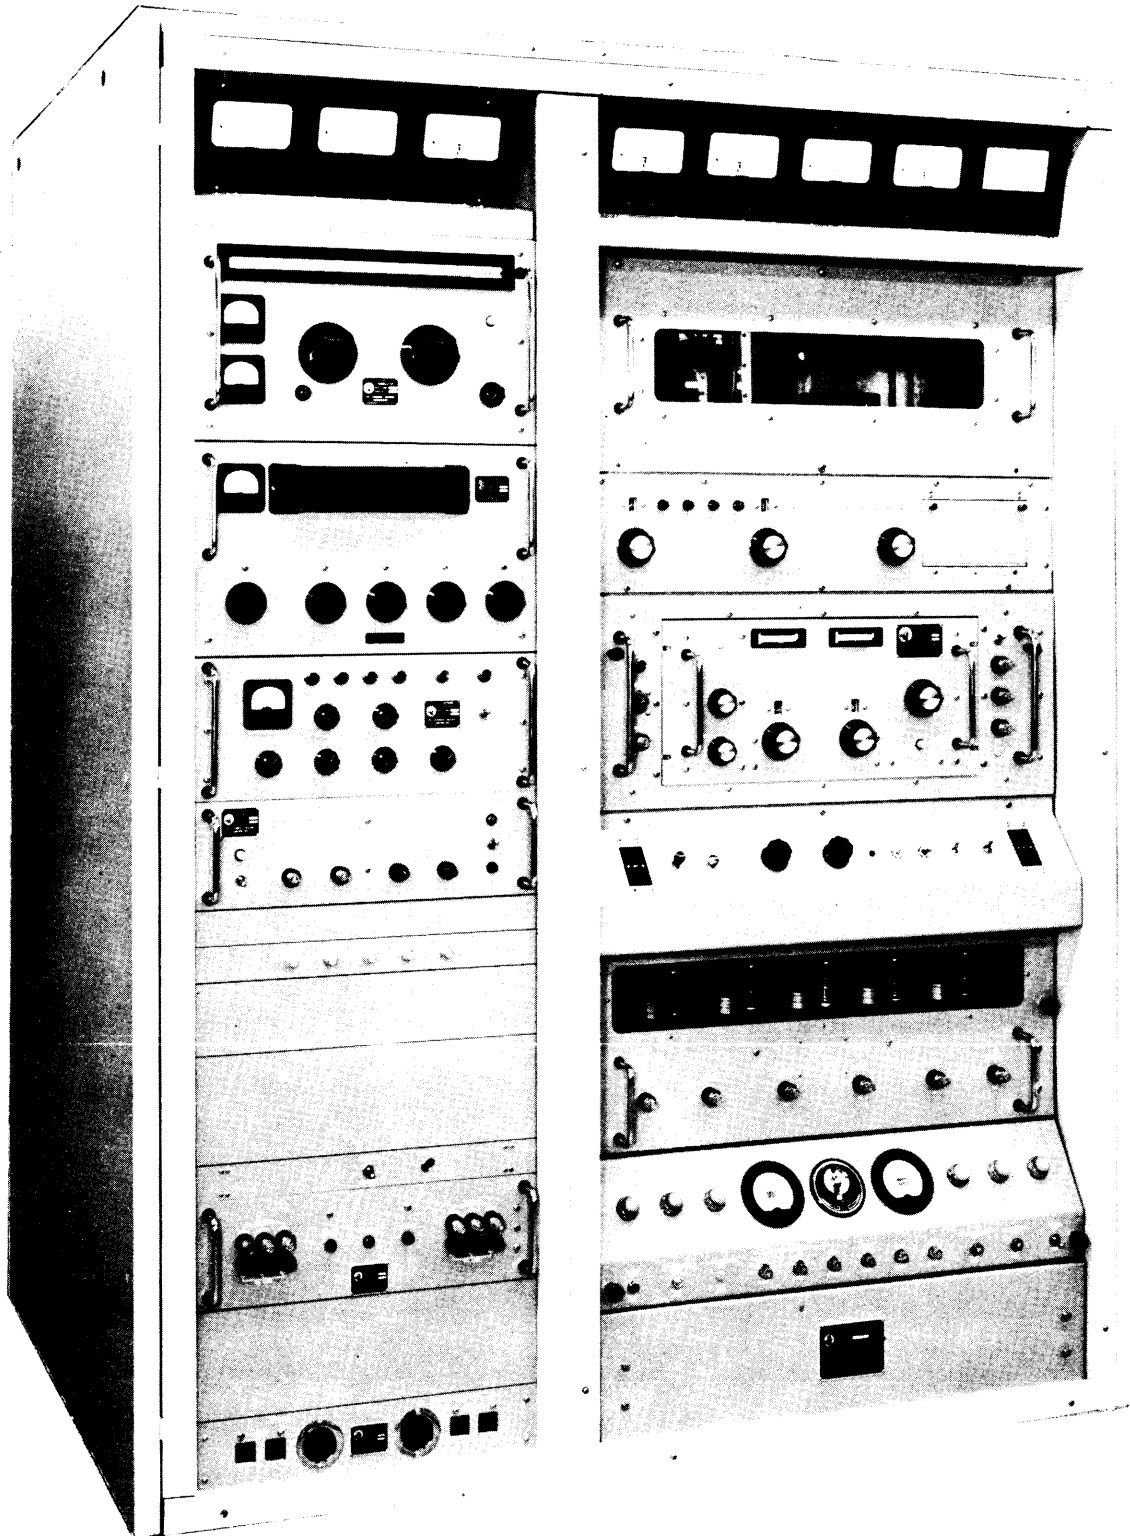

Figure 1-1. Technimatic Transmitter, Model TSTE-10K
TechniMatic* Transmitter, Model TSTE-10K (figure 1-1) is a remotely controlled general purpose transmitter that delivers 10,000 watts peak envelope power (PEP), or 5,000 watts average power throughout the 2- to 30-mc range. The transmitter provides many types of operating modes, as follows:
a. GENERAL. - As shown in Figure 1-1, the transmitter consists of two frames, the auxiliary frame and the main frame. The auxiliary frame primarily contains a remote-controlled synthesized exciter. The main frame primarily contains a linear power amplifier.